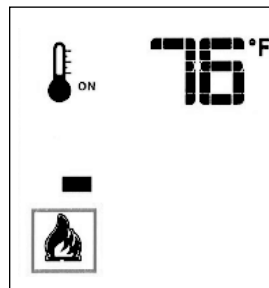

Fig. 15.8. Flame Level 1.
- With the system ON, and the burner flame level at maximum, press the Down Arrow Key once to reduce the flame height by one step. Each time the Down Key is pressed, the flame will step down until the burner is finally turned off. Fig. 15.8.
- The Up Arrow Key will increase the flame height each time it is pressed. If the Up Arrow Key is pressed while the system is on but the flame is off, the flame will come on in the High position as in figs. 15.8 - 15.10. A single “beep” will confirm reception of the command.